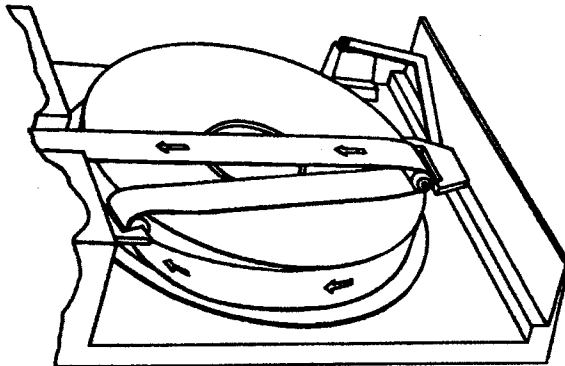

Fig. 4.1 Tape Loading
2. Thread the tape around the two rollers (see Fig 4.1).